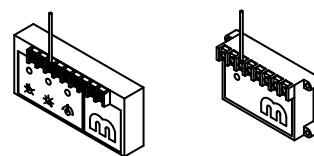

Figure 1
- b.1 **For EDL, EDR, EDSM, and EDSM/TP control systems**, remove the wire from terminal #3 on the amplifier (see Figure 1).